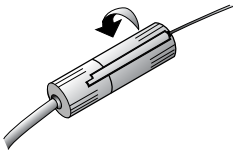

Figure 26. Lock twist-lock connector.
2. Lock the stylet handle into the twist-lock connector on the screening cable by twisting connector 1/4 turn until connector stops (Figure 26). If the twist-lock connector does not turn easily, do not force it to turn. Stop, disassemble the components, and repeat step 1 in this section.